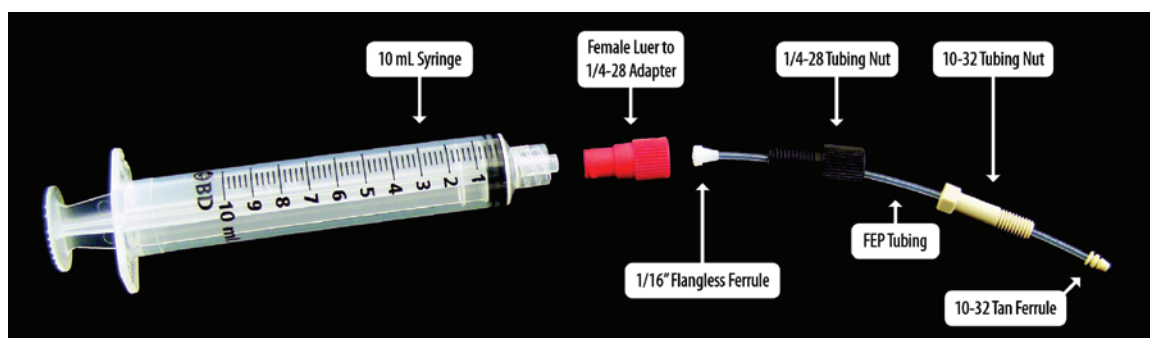

Figure 4. Sample selection 14-port valve flushing apparatus.
- Check the individual ports on the face of the valve to be sure if they are clogged. If they are use the 10 mL Syringe, Female Luer to 1/4-28 Adapter, 1/4-28 Black Tubing Nut, 10-32 Tan Tubing Nut, FEP tubing, a White Flangless Ferrule, and a Tan Ferrule as seen in **Figure 4**, to flush out the ports with dH₂O.